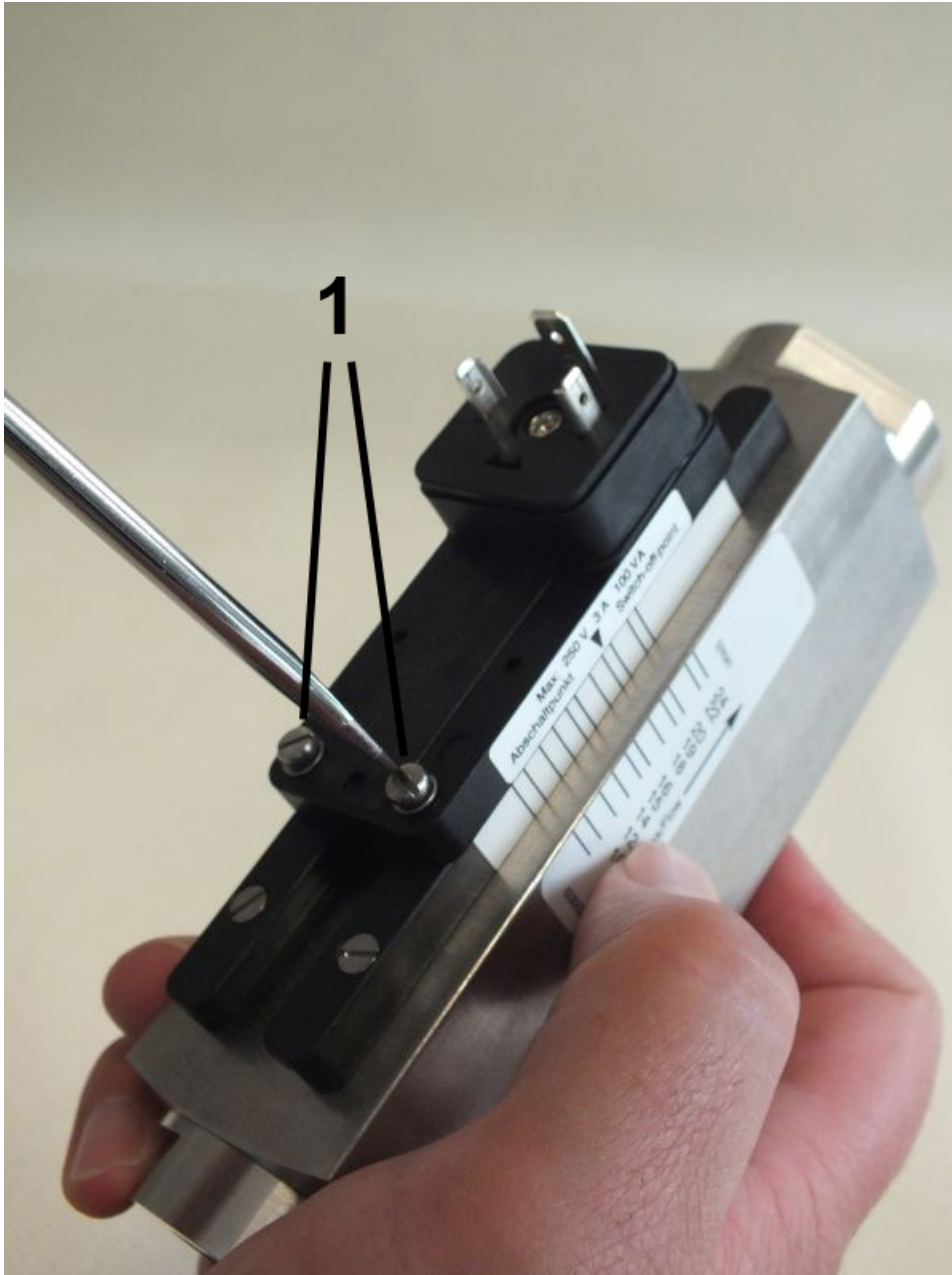

Fig. 80: Loosen set screws
- 3.** Using a flat-bladed screwdriver (*Fig. 80/1*) loosen the set screws of the switch contact until it can move freely.
11. ➤ Retighten the set screws (*Fig. 80/1*) observing the proper tightening torque of the screws (➔ *Chapter 11.1 "Tightening torque" on page 104*)